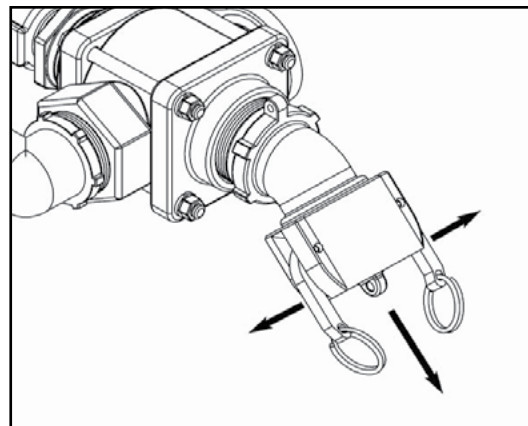

Figure 19 - Liquid Valve Cap
2. Unlock liquid valve cap and remove (Figure 19).